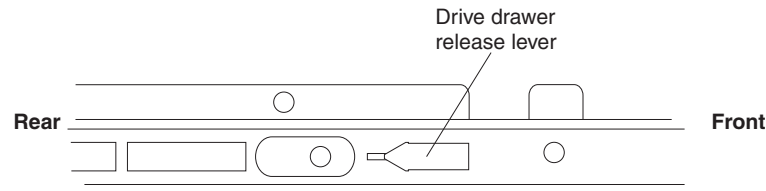

Figure 67. Drive drawer release lever on the side of the drive drawer
- b. Slide the drive drawer release lever (see Figure 67) on both sides of the drive drawer toward you, and remove the drive drawer from the enclosure.